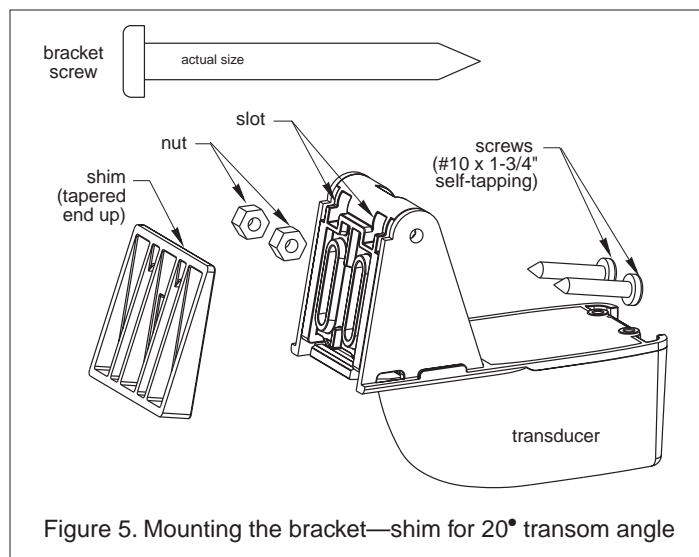

Figure 5. Mounting the bracket—shim for 20° transom angle
- **Stepped transom and jet boats (3° transom angle)** —Use the shim with the tapered end *down*. Place the nuts in the slots in the back of the bracket (see Figure 5). Snap the shim into place.
- **Small aluminum and fiberglass boats (20° transom angle)**—Use the shim with the tapered end *up* (see Figure 5). Place the nuts in the slots in the back of the bracket. Snap the shim into place.
1. Insert the two nuts in the slots in the back of the bracket if this has not been done (see Figure 5).